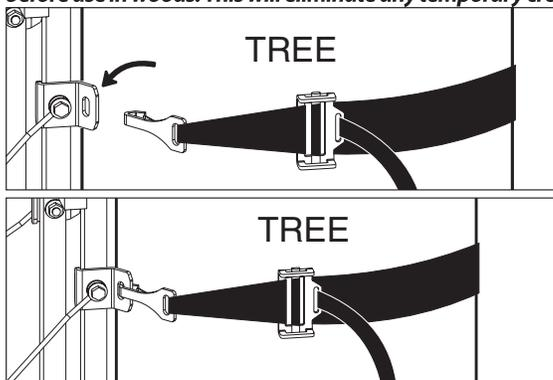

Figure 4
b. Take buckle and wrap around tree. Be sure the strap is even and at the same level all the way around the tree. Also, be sure there are no twists in the strap. Connect hook to opposite side of stand by inserting thru hole (slot) provided. **SEE FIGURE 4.**
c. Pull on excess end of strap firmly - snugging up stand to tree. **SEE FIGURES 4 AND 5.**
**DO NOT TWIST STRAP WHEN ATTACHING. SEE FIGURE 4 FOR CORRECT ATTACHMENT.**